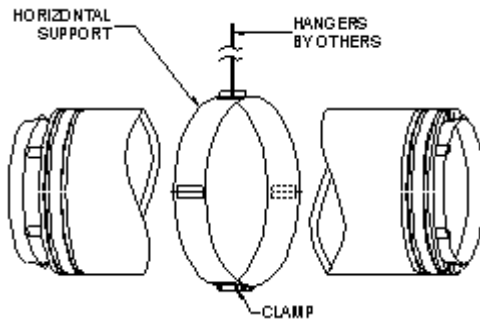

Figure 1
1. Remove the clamps and coupler band from the adapter, *figure 1*. The adapter must clamp onto the flue collar with no less than 1 inch overlap for proper fit. Mark or scribe flue collar prior to fitting the adapter, *figure 2*.
Saf-T Vent CI Plus must have supports for every six (6) feet of horizontal run and after every transition from vertical to horizontal. For large diameters, 24"-32" use parts numbered CCM24HZZS - CCM32HZZS. The support may be attached from the center bracket, figure 1 or attached to the side brackets, figure 2. Support hangers by themselves do not maintain the necessary clearances to combustible materials; be sure to consider clearances when planning the system. For 4" thru 24" diameters use support clamp part number 4627SS-42627SS and attach as appropriate.
Assemble the guy support to the vent sections as shown in the joint assembly instructions. Once the guy support is assembled to the vent sections, *figure 1*, install the 5" long coupler from the guy support so that it fits directly on top of the guy brackets. On the vent section below the guy support, attach the 8" long coupler so that it fits up to the bottom of the guy brackets, *figure 2*. The guy support is now totally enclosed with only the guy brackets protruding, *figure 3*. The guy lines can be attached before or after installation of the couplers.
APPLICATION 1. *Directly On Flat Roof (figures 1 & 2).*
Prepare a square or round opening $4\frac{1}{2}$ " larger than the inner vent pipe diameter, i.e. an 8" inner vent would have a $12\frac{1}{2}$ " opening. Apply weather-stripping or outdoor caulk to the bottom of the cone plate. Attach the cone to the roof using common construction methods. Flash over the cone plate and seal the fastener heads using normal roofing requirements. When the vent pipe is in place through the Tall Cone, attach the Tall Cone storm collar around the pipe and position at least 2" above the top edge of the cone (figure 1). This 2" air space will release any built up heat from inside the cone. Apply RTV sealant around the top of the storm collar and the pipe. On the last section of pipe before the Rain Cap, install the Ventilation Collar over the air space between the inner and outer vent pipes. Install the Rain Cap on the last section of vent per the Rain Cap installation instructions. Position the Rain Cap Storm Collar 2" above the Ventilation Collar as shown in Figures 1 & 3. When the Tall Cone is used as a vertical support, screw the self-tapping screws through the holes in the cone and into the wall of the Outer Vent.